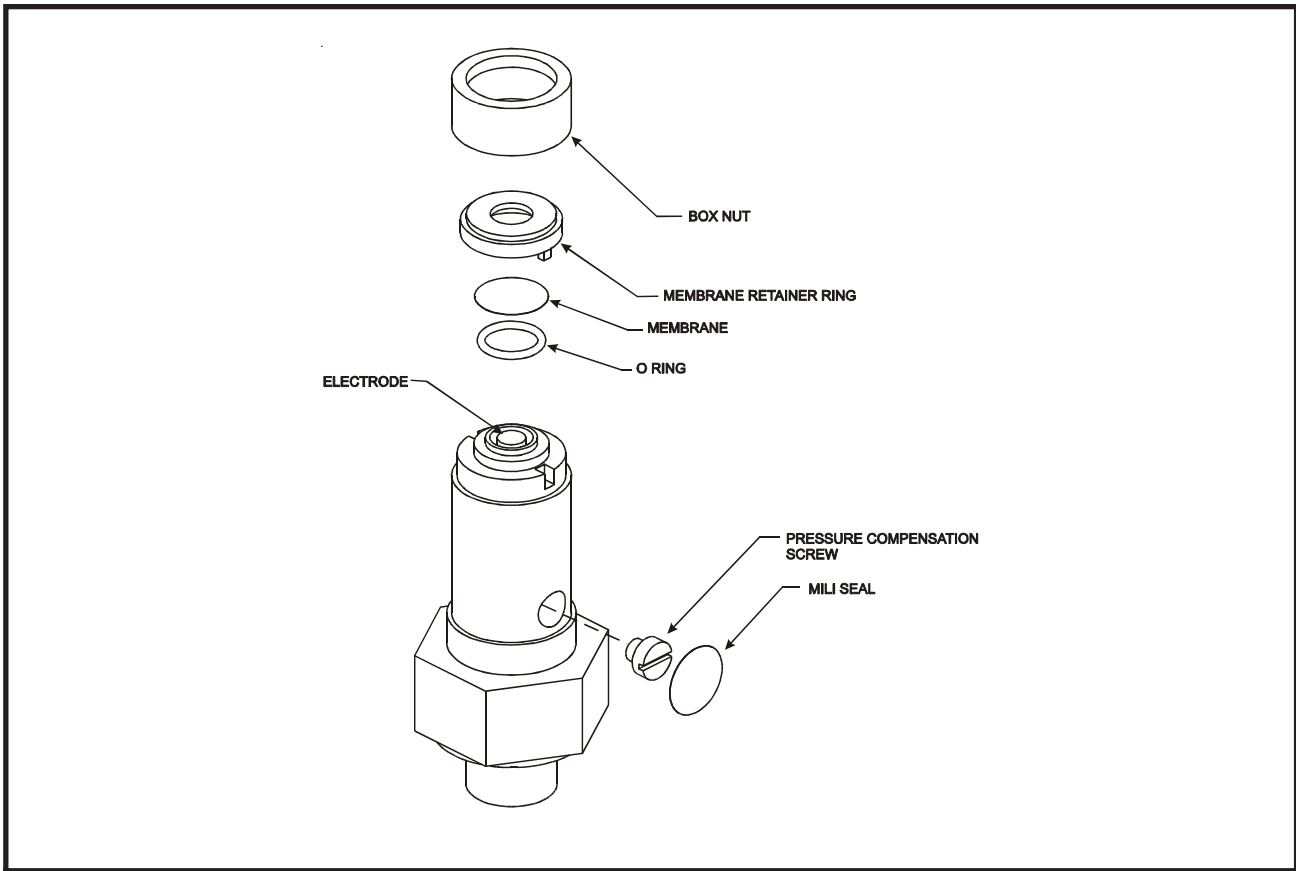

Figure 2
3. Electrolyte Replacement (See Fig. 2)